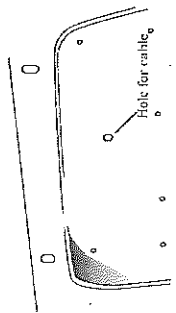

Fig. 2
3. With the license plate off, check if there are pre-existing holes through which the cables from the camera can be passed through to the boot of the vehicle as in Fig. 2. If there are no pre-existing holes carefully drill a hole of sufficient diameter to allow the cables to be passed into the interior of the vehicle (through a rubber grommet) and seal the hole with silicone to avoid water leakage. You can choose other locations were to pass the wires through such as above the camera if you wish.